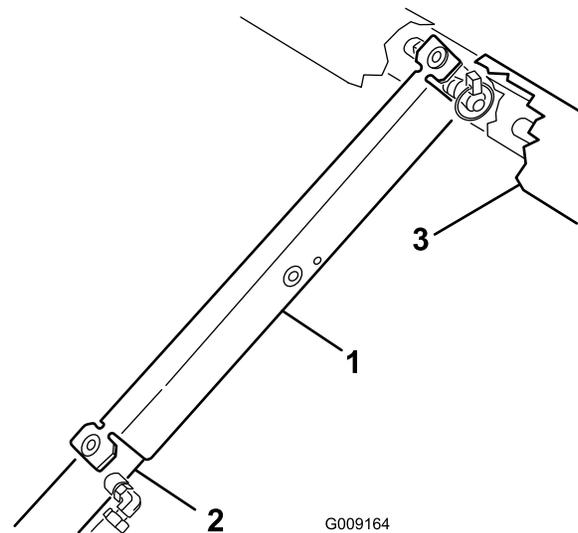

Figure 27
3. Push the bed support onto the cylinder rod, making sure that the support end tabs rest on the end of cylinder barrel, and on the cylinder rod end (Figure 27).